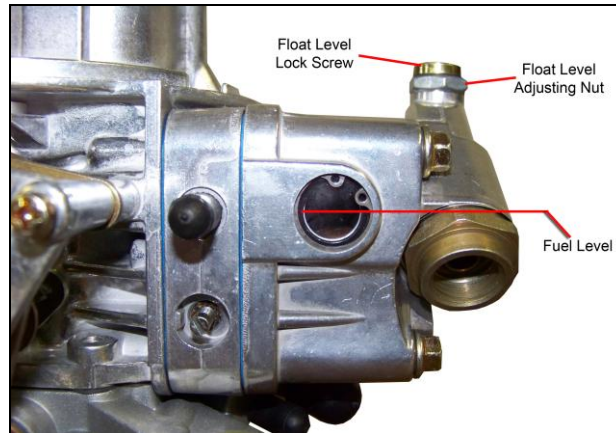

Figure 11
2. Observe the sight glass for the fuel level. If none is seen, the level is too low. If it is higher than the middle of the sight window, it is too high. **NOTE:** A properly set float level will have the fuel level located at the middle or slightly below the middle of the sight window, as shown by the line in Figure 11.